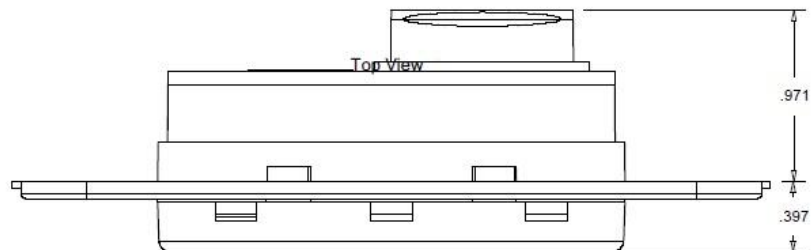

Figure 5 – EasyTouch Display Top View Mounting Dimensions
1. Choose a wall location that has adequate depth (at least 1 7/8"/25.4mm) behind the wall itself. See Figure 5 for the depth dimensions of the display.